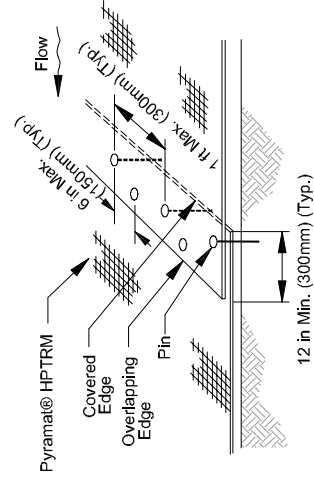

FIGURE 5: PYRAMAT® HPTRM OVERLAP AT ROLL END DETAIL
- Roll end overlap: 12 in (300 mm) minimum overlap with upslope mat on top. Secure with two rows of ground pinning devices staggered 12 in (300 mm) apart on 12 in (300 mm) centers (see Figure 5).